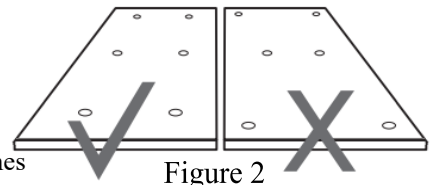

Figure 2
- It is important to install plates in a straight line. This will improve system performance and help you more easily identify plates under the membrane (See Figure 2)